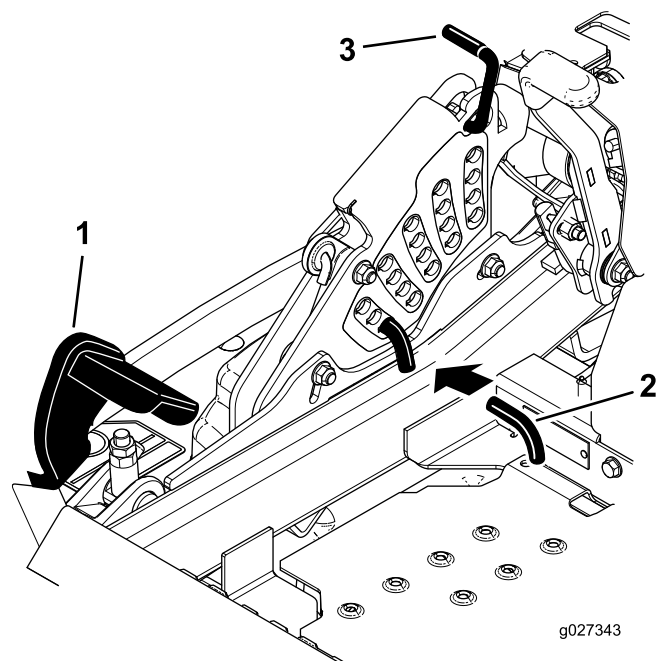

Figure 28
2. Push on the deck-lift pedal with your foot, and raise the mower deck to the transport position (also the 140 mm (5-1/2 inches) cutting height position) as shown in Figure 28.
3. To adjust, rotate the pin 90 degrees and remove the pin from the height-of-cut bracket (Figure 28).
4. Select a hole in the height-of-cut bracket corresponding to the height-of-cut desired, and insert the pin (Figure 28).